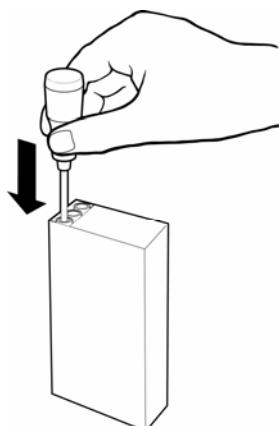

Figure 8: Loading the Probe Cover
- 3) Load a probe cover onto the probe by holding the probe collar with the thumb and forefinger, being careful not to hold or press the ejection button. Refer to Figure 8.